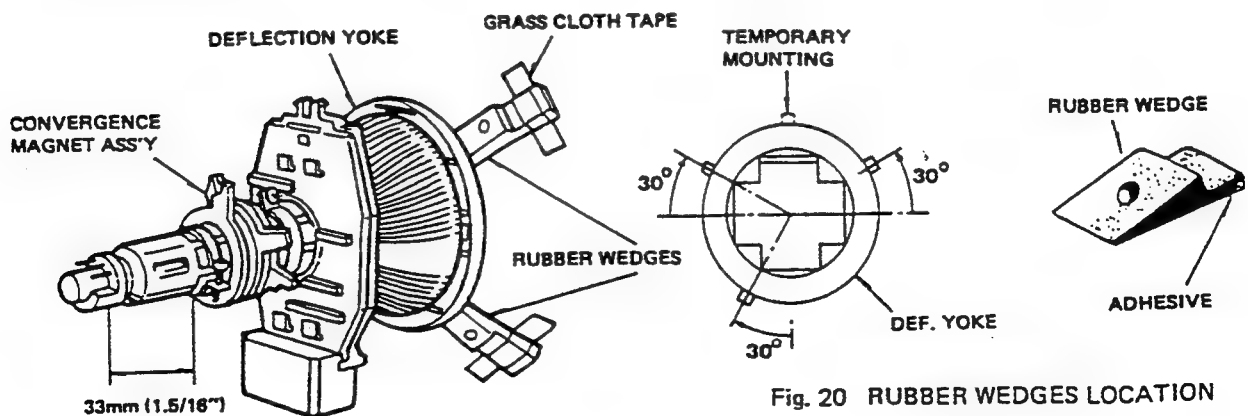

Fig. 20 RUBBER WEDGES LOCATION
Convergence Magnet Assembly and Rubber Wedges need mechanical positioning following Fig. 20.
- (i) Stick 3 glass cloth tapes on wedges as shown in Figure 20.